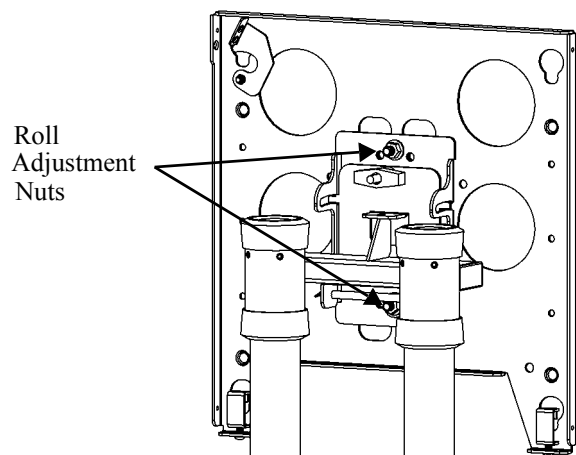

Figure 6. Adjust Yaw
1. Loosen two nuts on back of mounting plate (see Figure 6).
3. Tighten two nuts (see Figure 6).